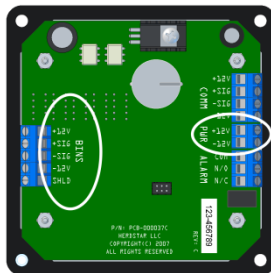

Figure 9
- Insert the wires into the terminal block where RED is +12V, GREEN is +SIG, WHITE is -SIG and BLACK is -12V. (Figure 9)